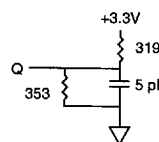

Fig. 2 OUTPUT LOAD EQUIVALENT
6. 1HZCE and 1HZWE are specified with CL = 5pF as in Fig. 2. Transition is measured ±200mV from steady state voltage.